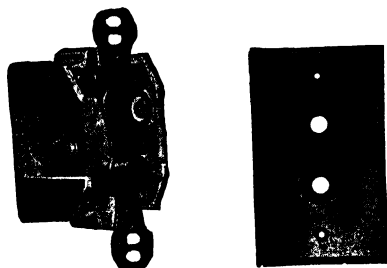
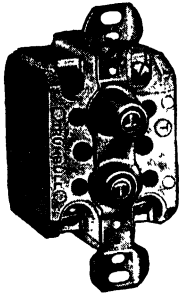

Fig. 51. Double-pole Push-Button Switch and Plate
Fig. 56. Three-Way Push-Button Switch
or armored cable wiring. A push-button switch is shown in Fig. 51. The position of the plungers on a push-button switch indicates whether the switch is on or off. When the plunger that has a white disc in the center end of it is sticking out farther than the other one, it indicates that the circuit is open and the lights are off. When it is necessary to turn the lights on, the white plunger is pushed in all the way, which causes the mechanism inside of the switch to make connections between the two wires fastened to the switch. The wires are fastened under the screws near the top and bottom of the switch. The metal part of the switch extending above and below the plungers is for the purpose of fastening the switch to the
metal switch box by the use of two machine screws. The term “single pole” means that one side of the circuit, or one wire of the circuit, is opened or closed when the switch is operated. A “double-pole” switch has two sets of blades, insulated from each other, that open or close both sides of the circuit at one time. A double-pole switch can be used to open or close one side of two circuits. A single-pole switch has two screw heads to which wires are attached and a double-pole switch has four screw heads, as in Fig. 51.
**Three-Way Switches.** It is often desirable to be able to turn a light on at one point and turn it off at another point. This can be accomplished by the use of two three-way switches located at the two points. The exterior of a three-way push-button switch, Fig. 56, is similar to Fig. 51 except that there are only three screw heads instead of four. The three-way switches can be obtained either in the rotating snap or push-button types. The push-button three-way types are made to fit in a standard switch box the same as the single-pole switches.